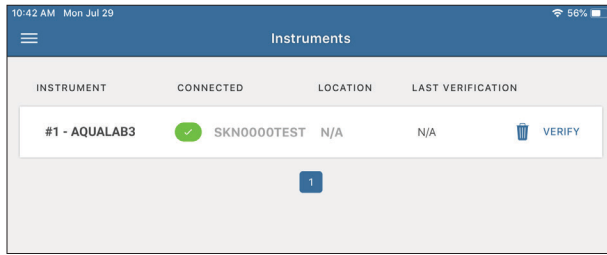

Figure 93 Instrument online and visible to NEXUS
4. Select VERIFY located at the far right of the AQUALAB 3 line (Figure 93).